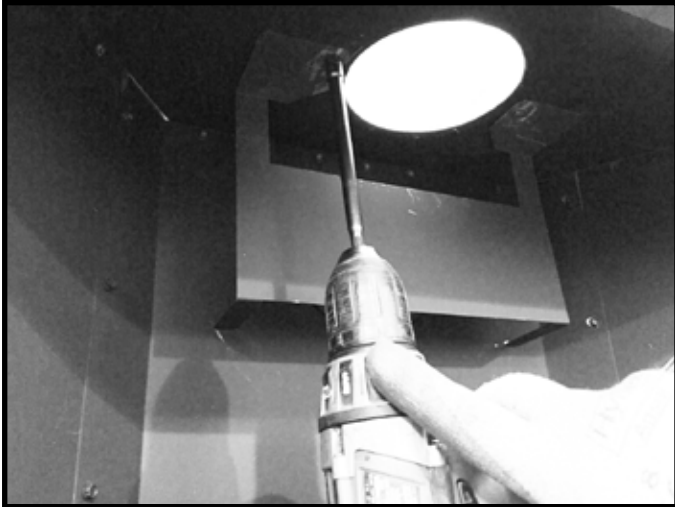

Figure 4.16 Remove Flue Visor
- Remove screws holding flue visor to firebox top. See Figure 4.16.